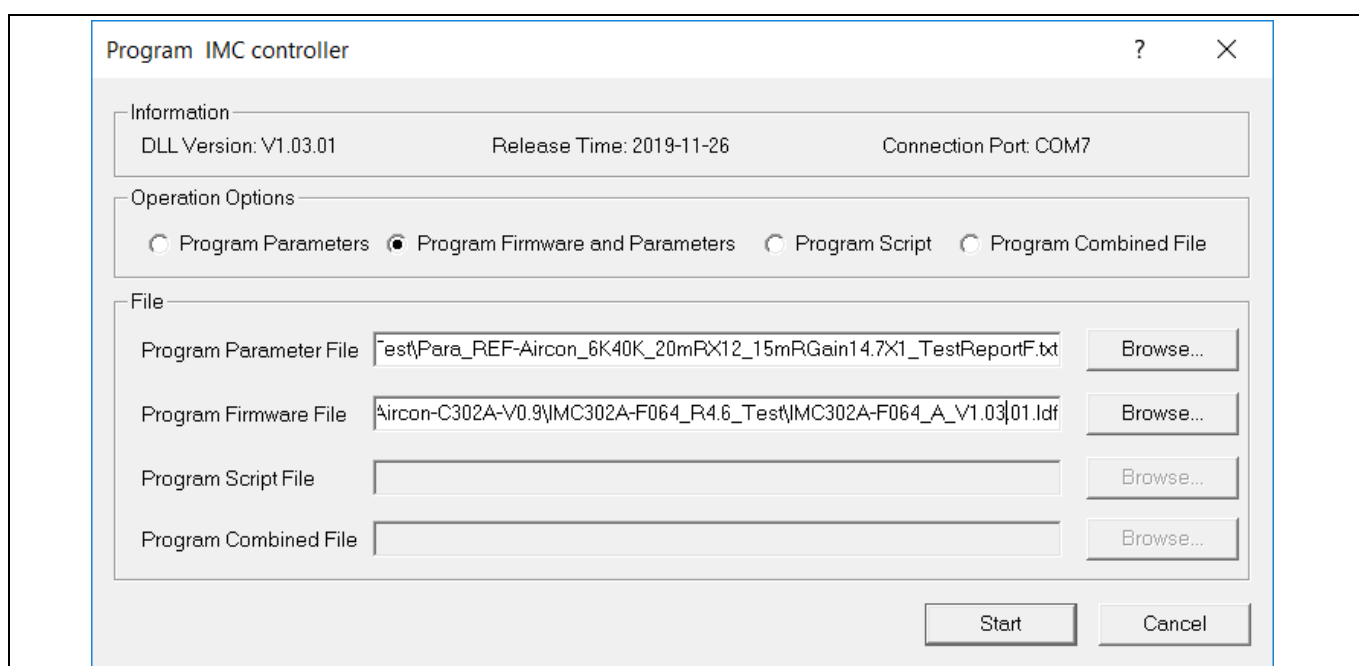

Figure 7 MCEDesigner program page
8. *In case of blank IC: Do the following to program the firmware and the parameters' file into the internal Flash memory of iMOTION™ Control IC: Click on system page, click “Tools” > “Programmer” and select “Program Firmware and Parameters,” shown as Figure 7 below. The encrypted firmware is available in IMC302A MCE Software Package, regarding the parameters file, browse and select the .txt file in step 3.*